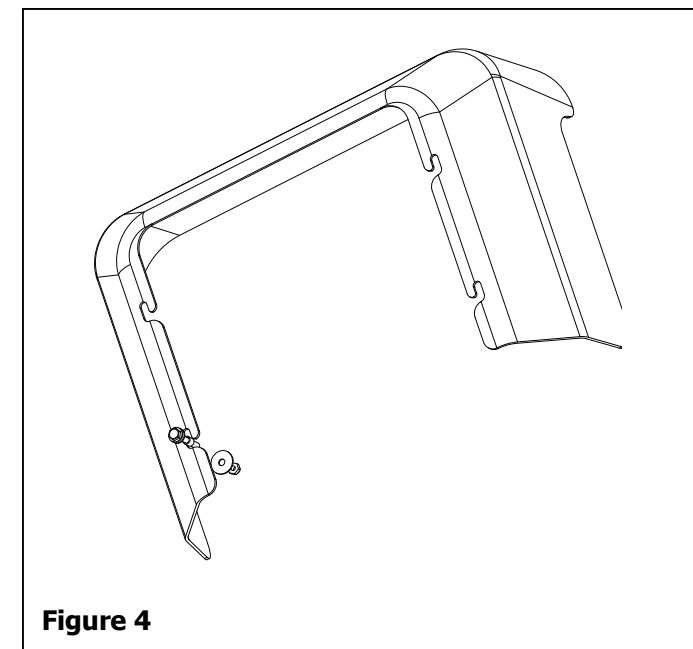

Figure 4
4. To install Deflector, begin at one of the rear corner slots on Deflector place the slot on the top of a Fender Washer, push into place, repeat process until all four slots are in place. To remove Deflector reverse process. See Figure 4.